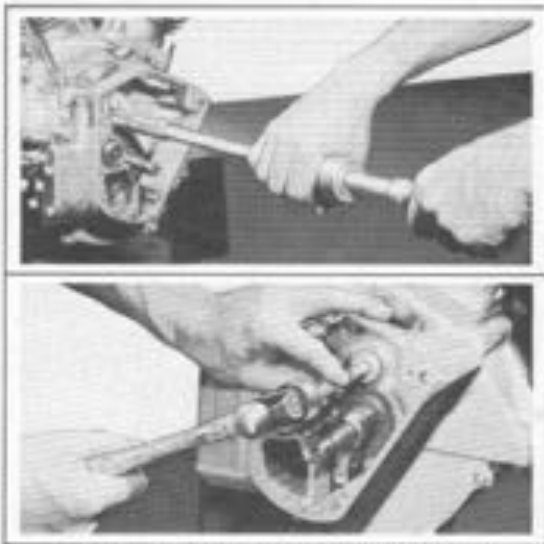

Figure 3-29. Removing and Installing Cam Gear Needle Bearing
2. Inspect oil screen (4) carefully to make sure mesh is open. Holding screen to light is not an absolute check. It is possible for oil screen to be plugged or partially plugged with tiny fine-like fibers and still permit light to pass. Replace plugged or partially plugged screen.
4. Inspect cam gear oil seal (34) in cover to see that lip is in good condition.
6. Inspect needle bearing (35) for wear, broken or gouged bearings. If end of cam shaft shows any appreciable wear (0.003 in. or more), needle bearing is probably worn to a point where replacement of bearing and cam shaft are advisable.
7. Needle bearing can be removed and installed in crankcase without disassembling crankcase with Puller Tool, Part No. 95760-69 as shown in figure 3-29. Press needle roller bearing into crankcase with Tool, Part No. 97272-60 as shown in figure 3-29. Press from heavier end having the manufacturer's name only. Pressing from opposite end will crush roller race and bind rollers. Pinion shaft main roller bearing may be replaced only when crankcase is disassembled (see "Disassembling Crankcase").